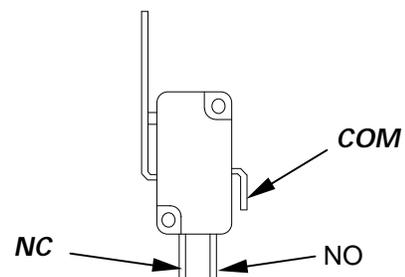

Figure 67. Microswitch terminals.
11. Open the breaker. Connect six wires to the available terminals on the Network Interlock device. Connect two of the wires to the NC and COM terminals of the microswitch as shown in Figure 67.